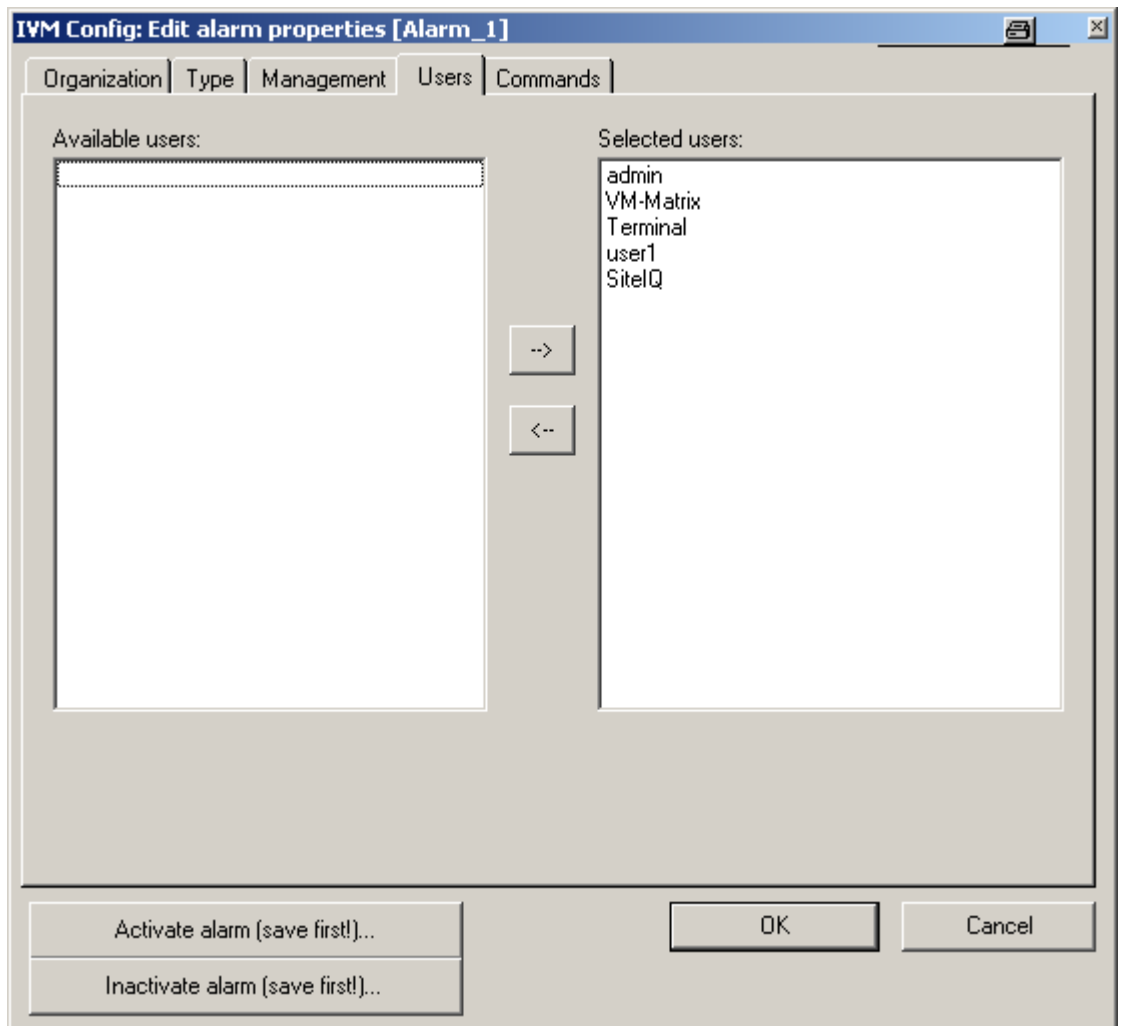

Fig. 105 Edit alarm properties – Users
2. Select the user who shall be the receiver of the alarm in the **Available users** list (see Fig. 105).